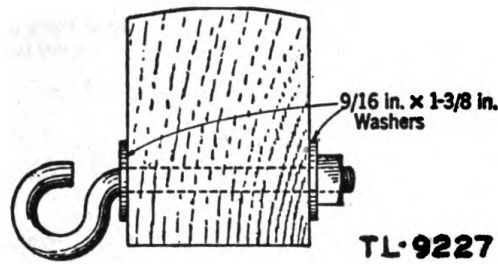

Figure 32. Guardarm hook installed on guardarm.
r. INSTALLING GUARDARM HOOK. Figure 32 shows guardarm hook installed on guardarm.